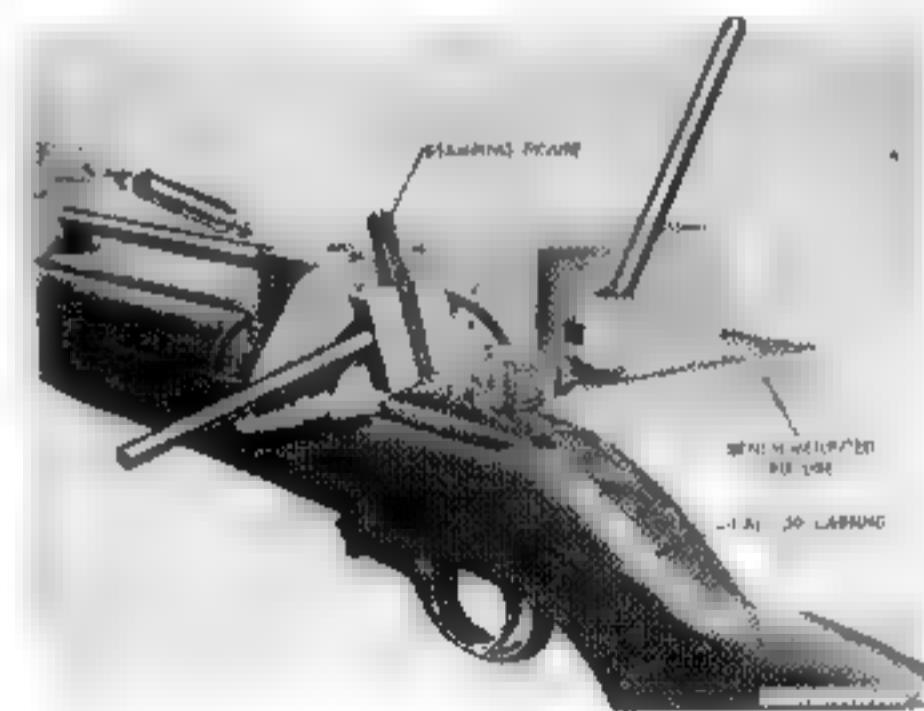

Figure 90. Bench-mounted stamping fixture with carbine and stamping fixture in place.
3. Place a 3/32-inch stamping fixture (Fig. 90). Position and space the stamping fixture by adjusting the stamping guide. Strike the stamping fixture with one firm blow of the hammer to insure a neat and distinct impression. Repeat this procedure until all the digits of the serial number are transposed.